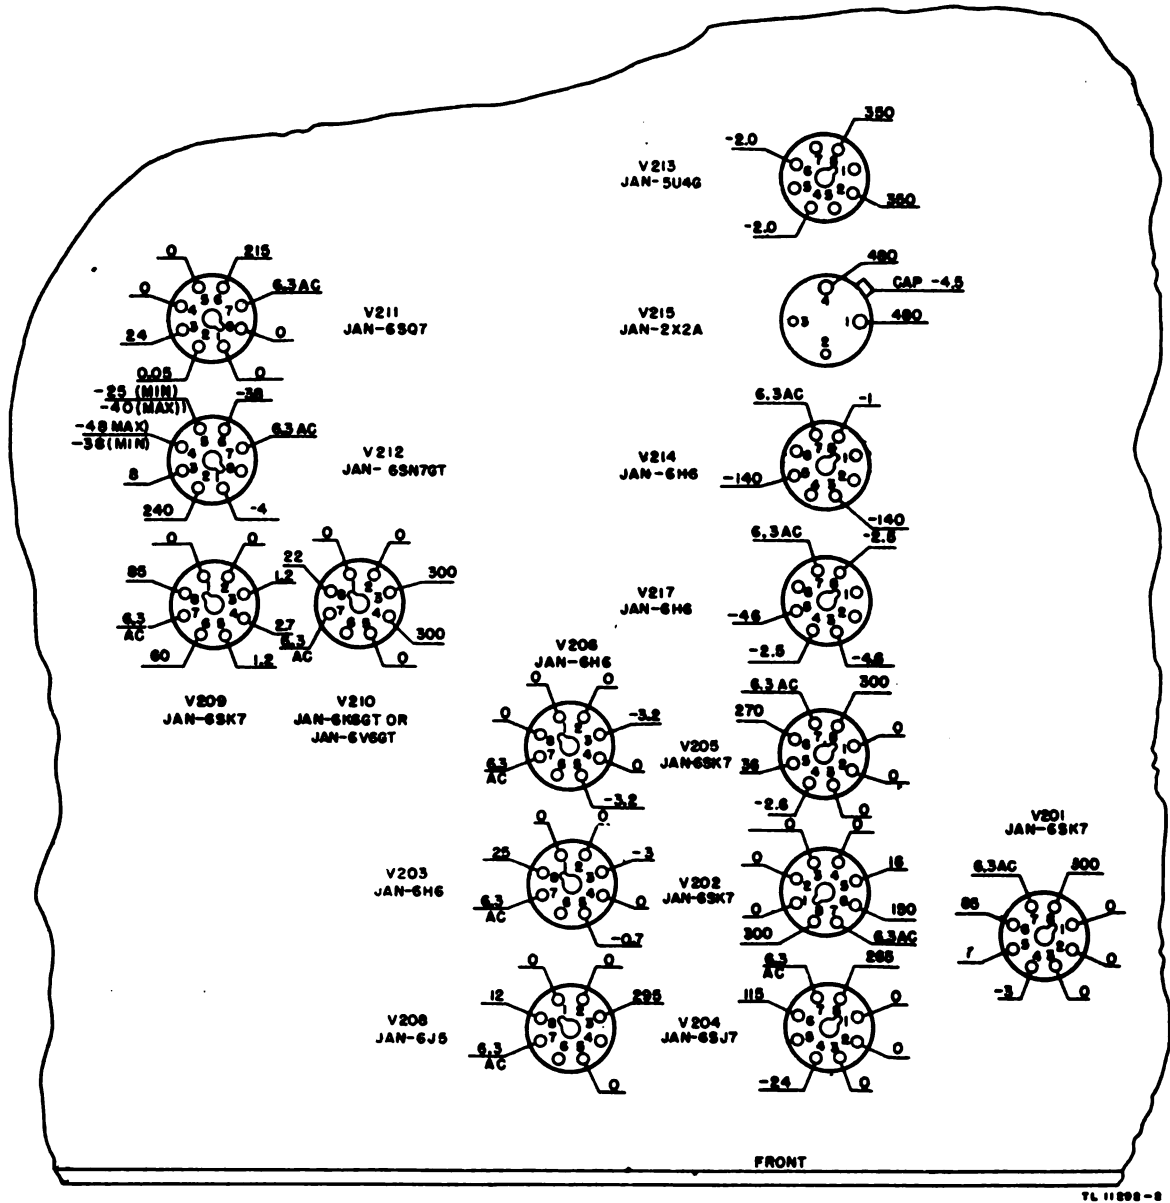

Figure 99. Power indicator voltage measurements.
(8) Turn blanking switch S204 on.
(9) Adjust blanking control R272 for tube V212 readings.
(10) See figure 99 for voltage measurements.